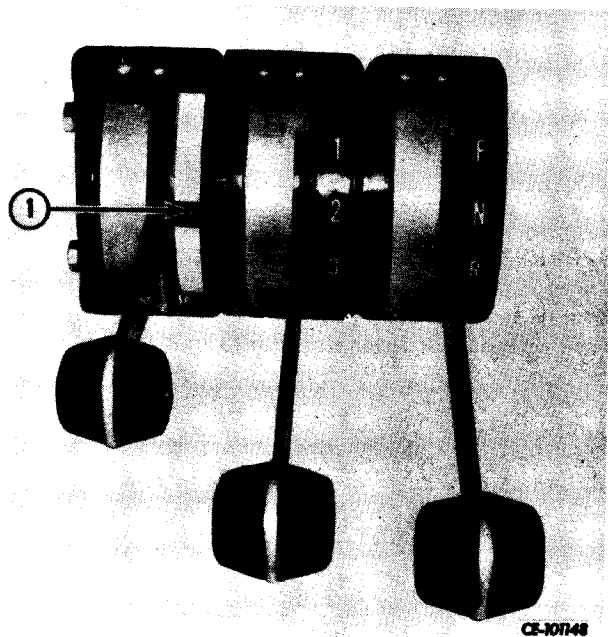

Figure 9-4
Replace bulbs (1, Fig. 9-4). Install positioning strips (2, Fig. 9-3) and install and tighten screws (1).